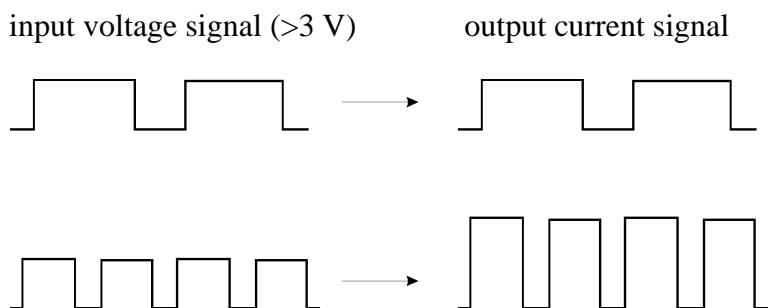

Figure 4: input-output relation using gated stimuli
**(27) GATE (TTL) connector**
With this input a current step (gated stimulus) can be generated set by the digital potentiometer STEP SIZE (28) and the polarity switch (26). This current step is gated by a positive TTL pulse (3-5 V) applied to the BNC connector. Two examples are given in Figure 4. The duration of the current step is set by the duration of the gating signal. The amplitude of the current step is set by STEP SIZE (28).
**(28) STEP SIZE digital potentiometer**